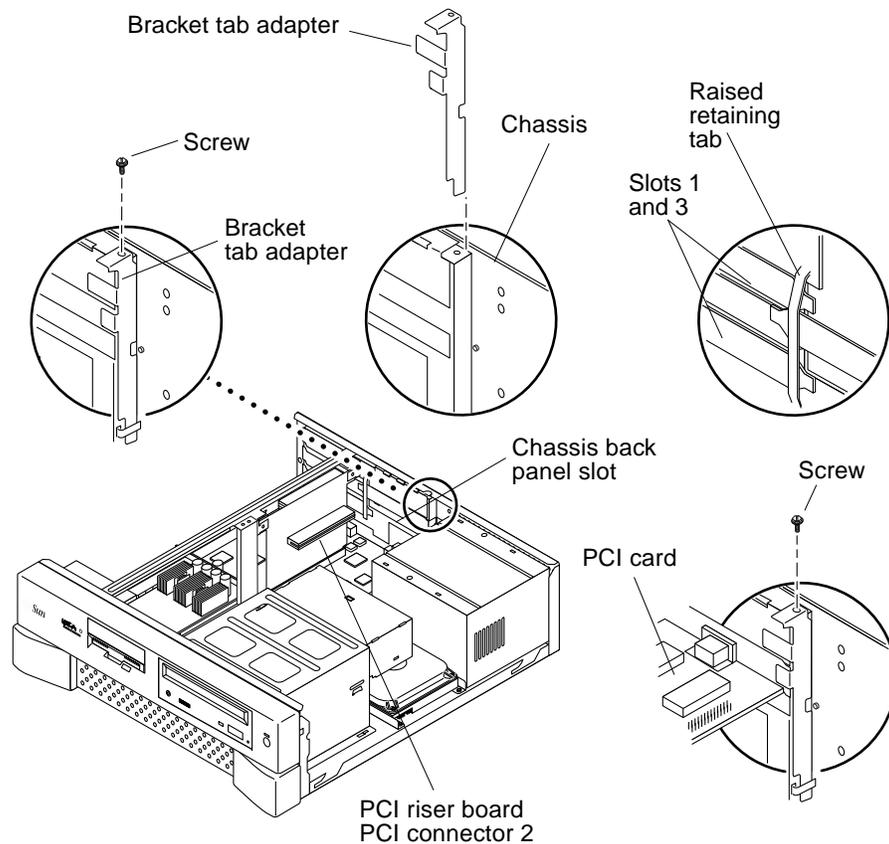

FIGURE 8-5 Removing and Replacing the PCI Card From PCI Slot 2
4. Remove the PCI card from slot 2 as follows (FIGURE 8-5):
Caution – The PCI card bracket tab end *must* be inserted under the raised retaining tab on the back of the system chassis (FIGURE 8-5).
3. Replace the PCI card into PCI slot 2 as follows (FIGURE 8-5):
Caution – The PCI card backplate end *must* be inserted *between* the card bracket tabs in slots 1 and 3 (opposite side of riser card) and the raised retaining tab on the back of the system chassis (FIGURE 8-5).